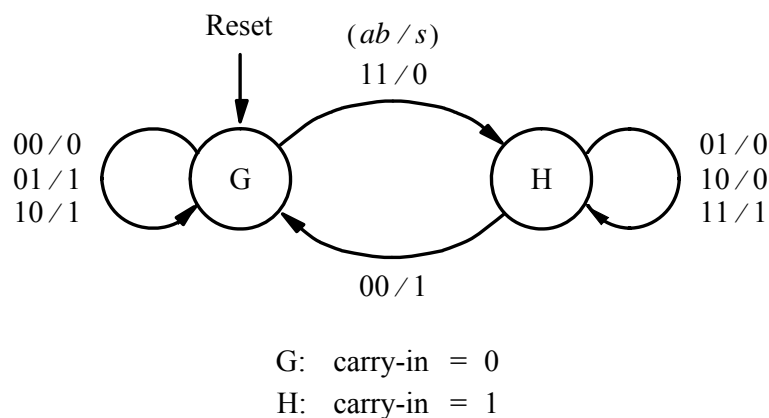

Figure 1: State diagram for a serial adder FSM
- **Problem 2:** The state machine in Figure 1 is for a serial adder. Create a synthesizable VHDL model for this finite state machine (FSM). All inputs and outputs should be synchronous. **Your FSM model should use two processes, one for combinational logic and one for the registers. Please refer to your lecture notes for an example. This is standard coding practice for state machines and should be followed anytime you implement a state machine.** Create a test bench to verify correct operation with a simulation using the ModelSim-Altera tool. The simulation should exercise all arcs in the state diagram. The two inputs are **a** and **b**, while **s** is the output. Use switches for the inputs and a seven-segment display for the output **s** (i.e., “0” for zero and “1” for one). Use a switch for the **Reset** signal. Use a push button for the **Clock** signal. **G** and **H** are the two states. Use enumerated types for the states in your VHDL model. For state **G**, illuminate a green LED and for state **H**, illuminate a red LED. Use the Classic Timing Analyzer to determine the maximum clock frequency. Download your design to the DE2-115 Board for testing.